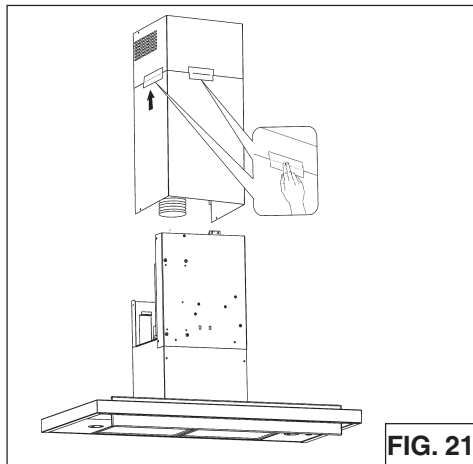

FIG. 21
6. Temporarily secure the upper and lower flue together with duct tape as shown (Fig.21).